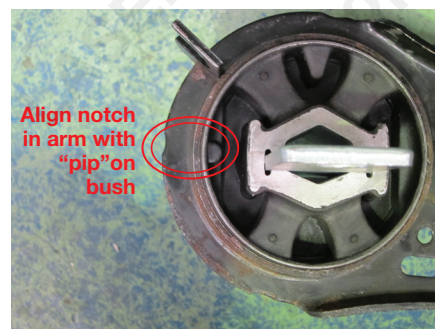

Fig 6
- The new bush must be positioned correctly in ALL directions, for this reason ensure the new bush is positioned in the same position that the old bush came out from. The depth pins will ensure the correct lateral insertion is obtained. See **Fig 6** for radial alignment of the bush.